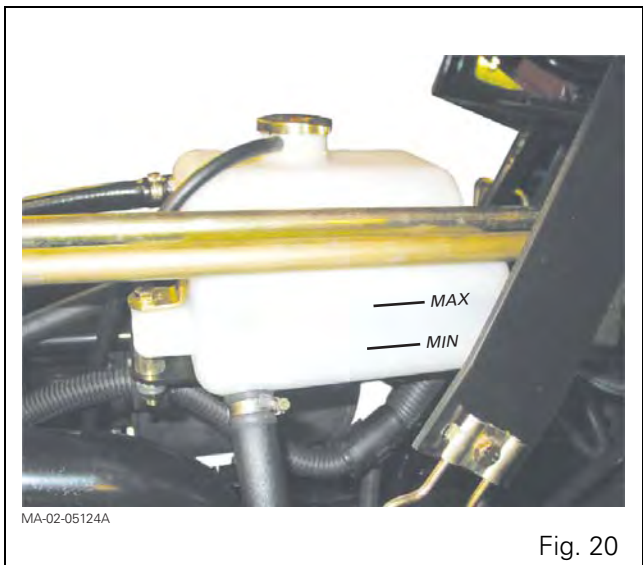

Fig. 20
- coolant up to the maximum level marked on the expansion tank (Fig. 20).